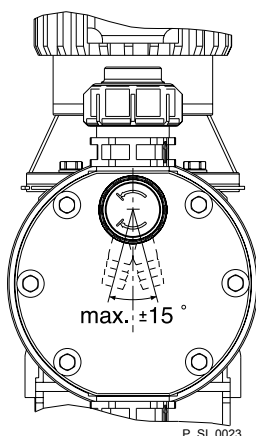

Fig. 20: Permissible alignment of the bleeder valve
- Route the overflow line with a continuous slope and moreover with the tube nozzle pointed downwards - see Fig. 20.